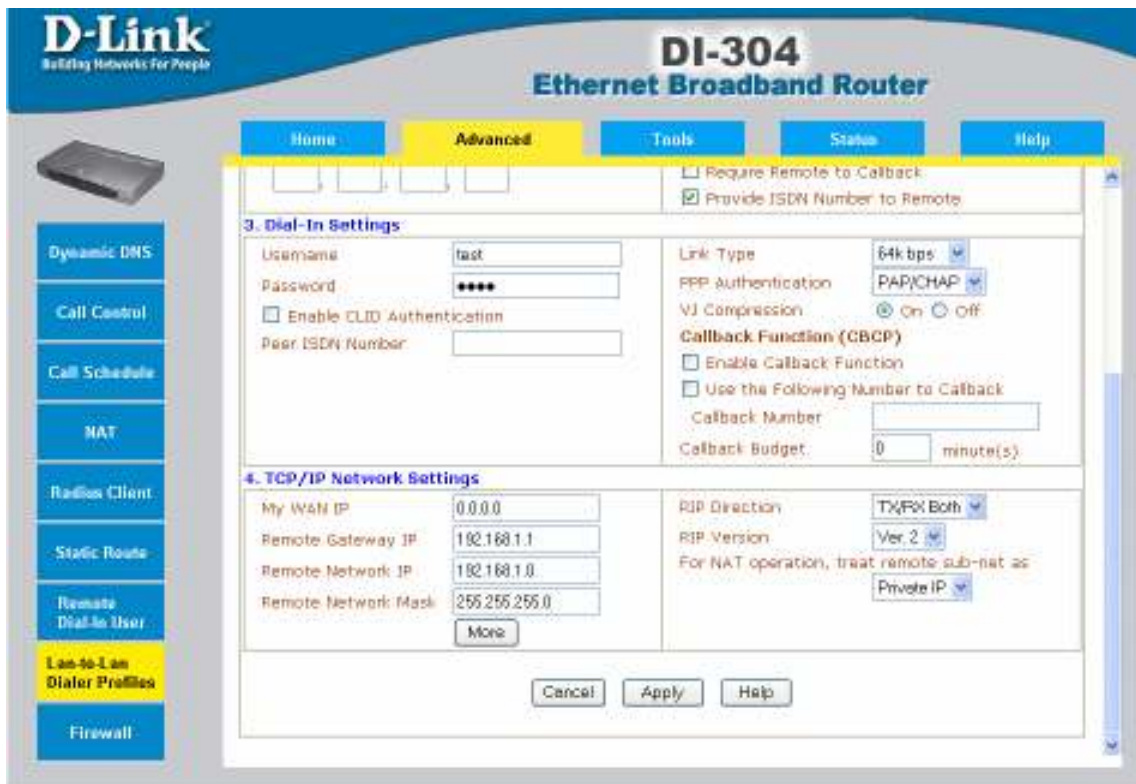

Figure 33: LAN-to-LAN Profile of ISDN Router 2 (2)
8. Finally, the IP setting have to match the IP address range of the local network, in order to allow correct routing and dial-in support. (Figure 33).